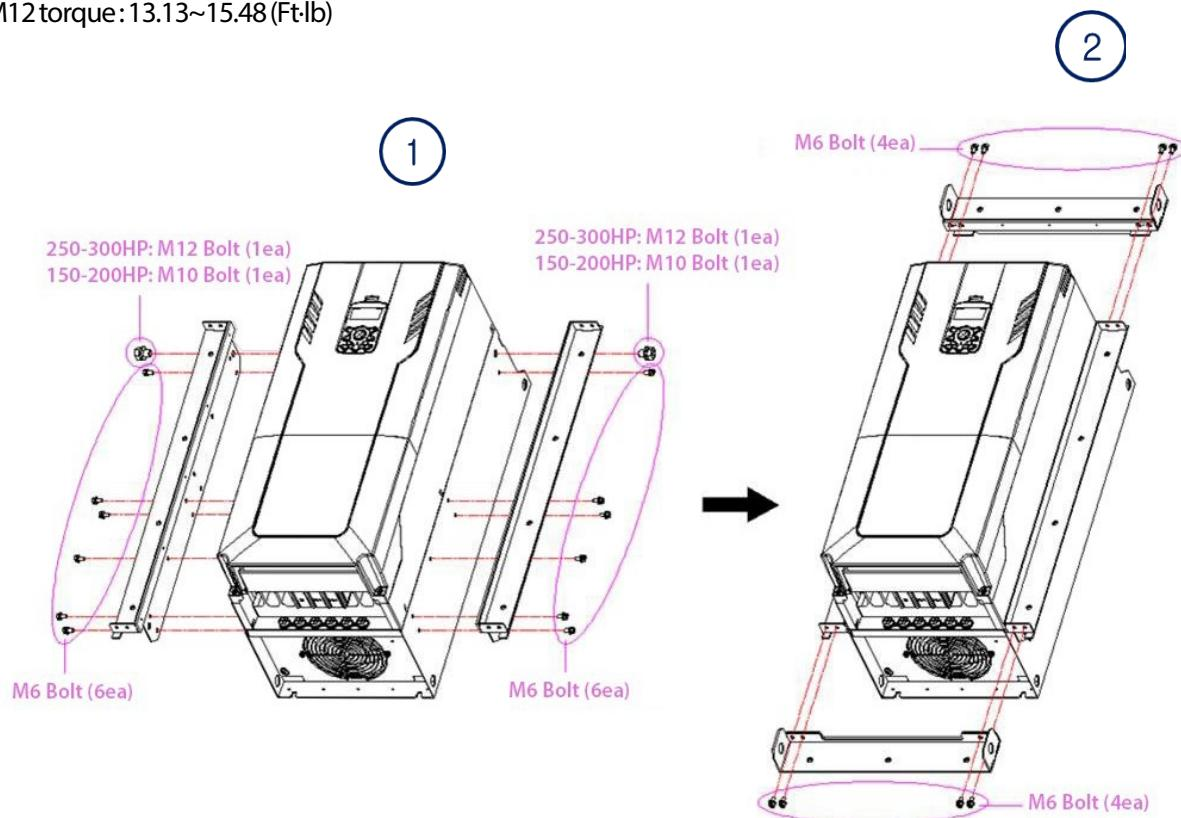

Figure 3. Installation
- ① Insert the Flange Option to fit on the sides of the base, fastening the side pieces as shown in Figure 3.